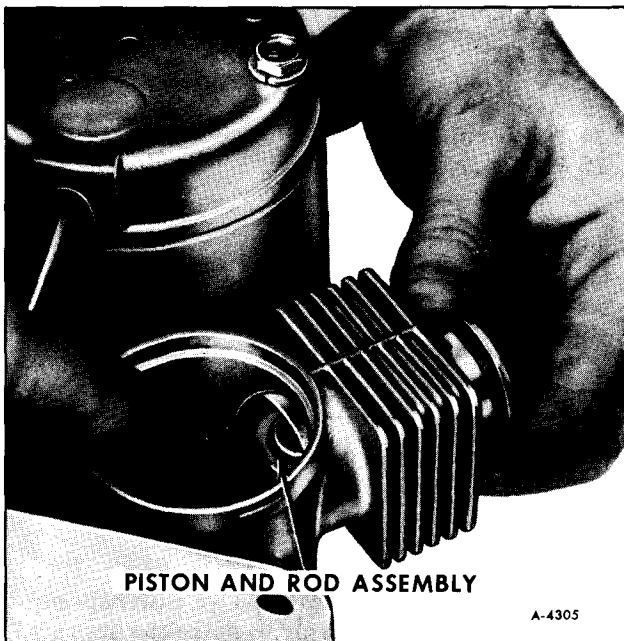

Figure 47—Piston and Rod Assembly Removal
5. Push the piston and rod assembly through top of housing assembly (figure 47).